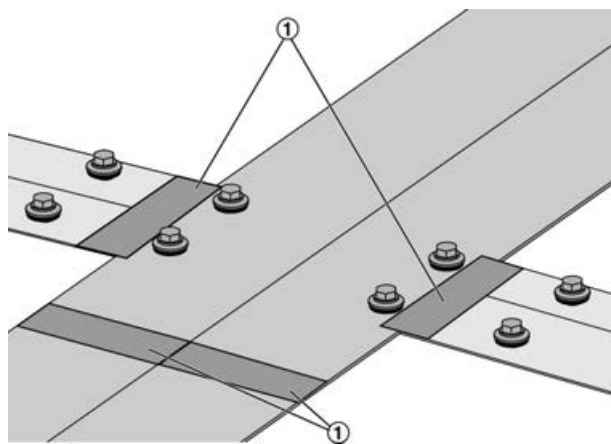

Fig. 22: Sealing the joints
- 2 ▶ Seal the joints (Fig. 22 /1) between the cover strips with the supplied adhesive strips (100 x 40 mm).